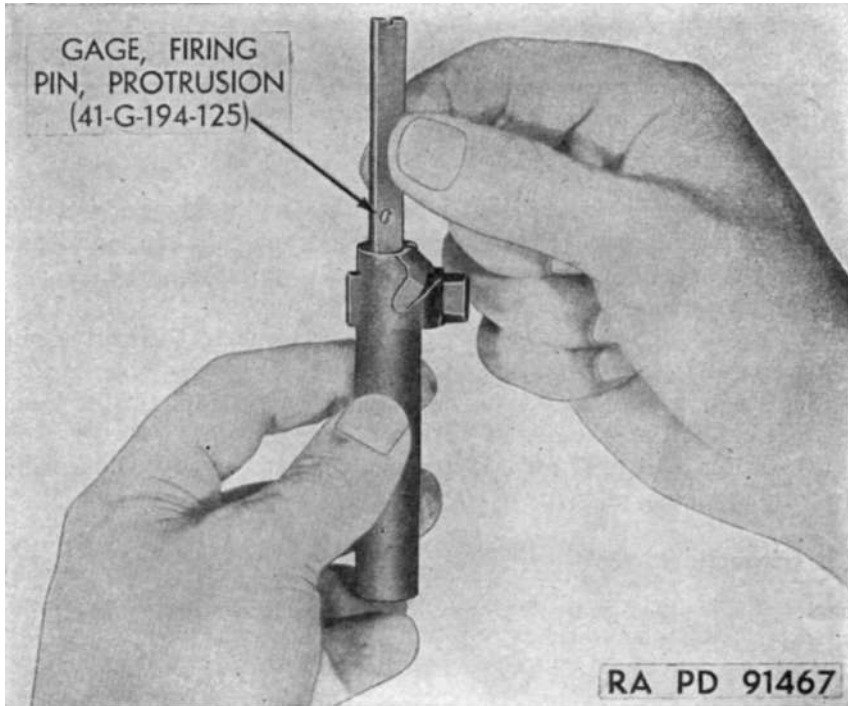

Figure 33. Gaging firing pin protrusion.
a. Test bolt for freedom of movement in its guideways in receiver. Check freedom of movement of firing pin in bolt, fit of tang in slot, and protrusion of nose of pin from face of bolt when in forward position. Firing pin should move freely in bolt. Fifth echelon organizations inspect firing pin protrusion with firing pin protrusion gauge (41-G-194-125). (See fig. 33.) Before proof or functional firing, nose of firing pin should protrude 0.048 to 0.065 inch.